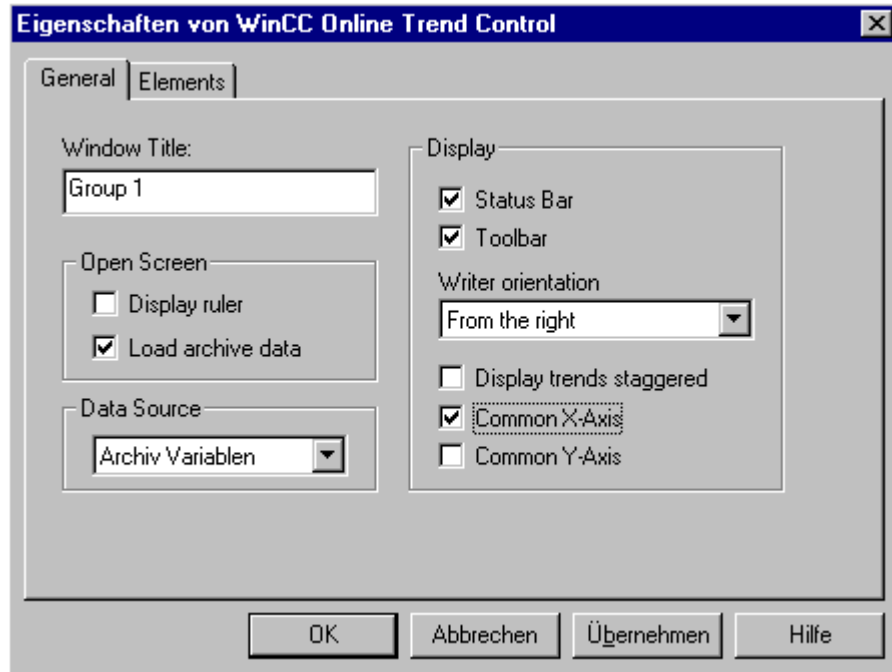

Figure 11-18 Properties of the Trend Control (General)
14. In the **"General"** tab, enter the window title **"Group 1"** and in the **"Display"** box, select a **"Common X axis"** (see Figure 11-18)